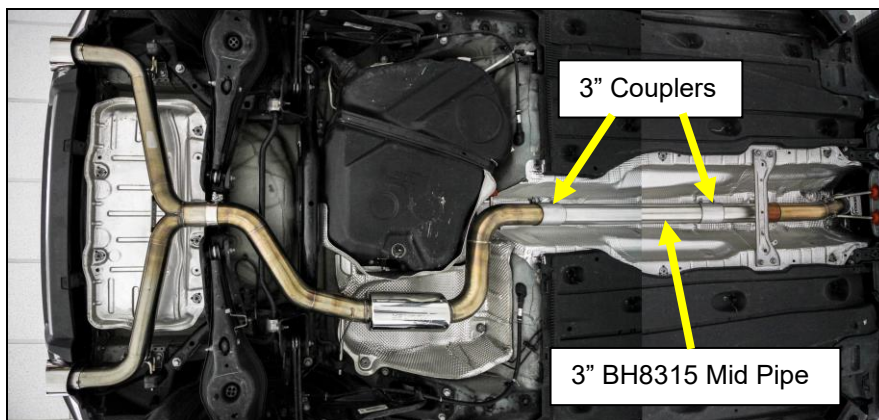

Figure 1
1. Loosen the 15mm nuts on the couplers at each end of the 3" mid pipe (**Figure 1**).